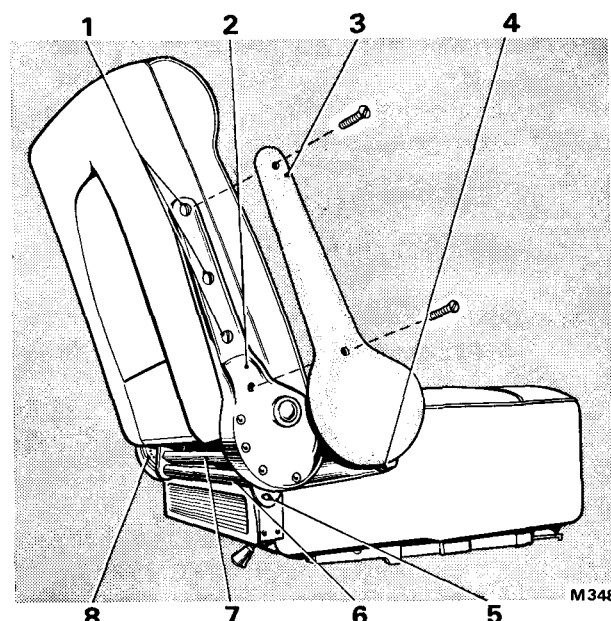

FIG. S27 FRONT SEAT RAKE ADJUSTER (2-Door Saloon and Convertible Cars)
Coachbuilt cars (see Fig. S27)
3. On cars fitted with the backrest locking device, check that the locking pins on the seat base securely engage the slots in the hinged rake adjusters (see Fig. S27, item 6).
Coachbuilt cars (*see Fig. S27*)